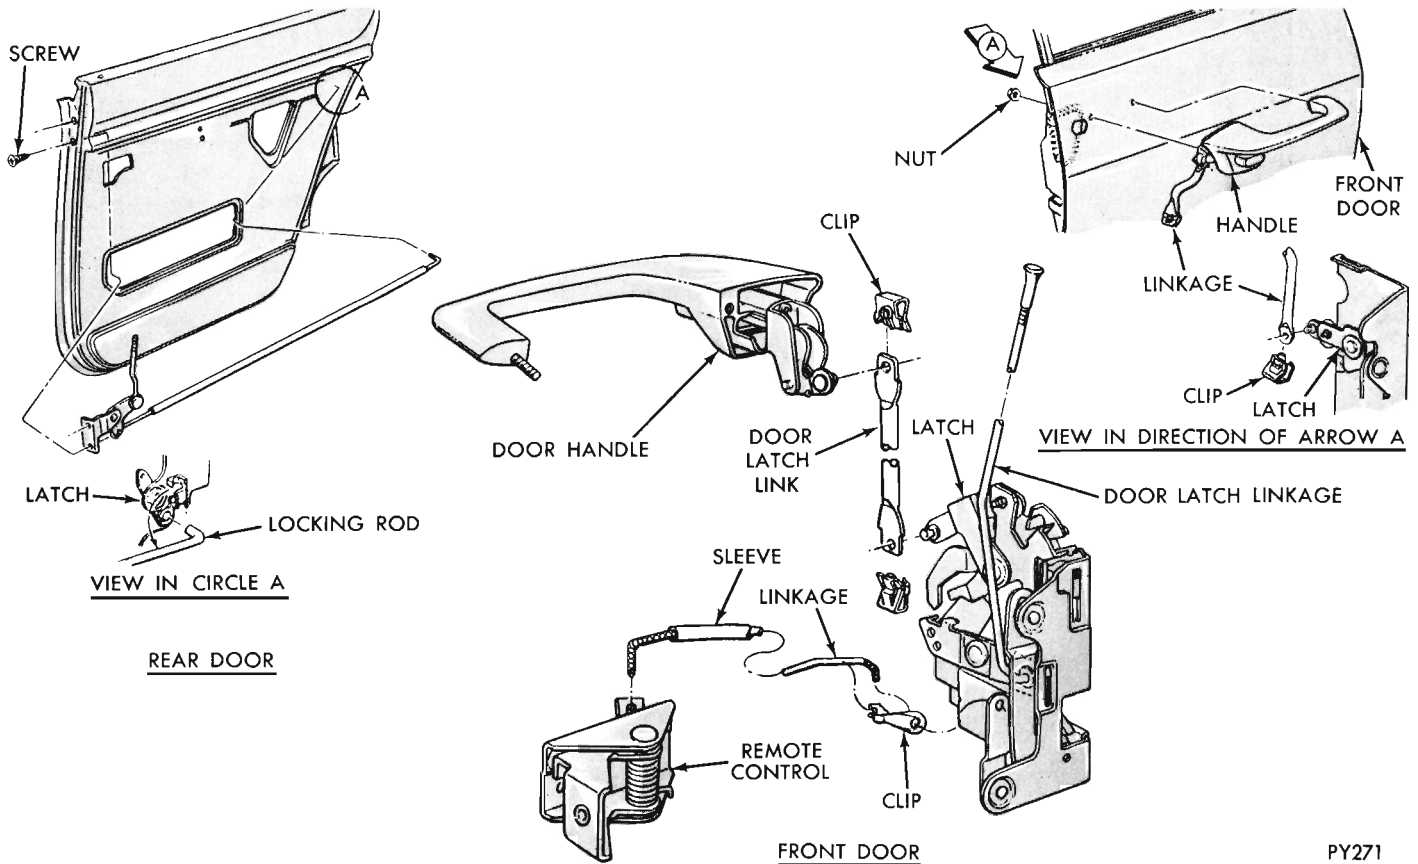

Fig. 14 - Front and Rear Door Locking Mechanism
- (1) Disconnect handle to lock link (Fig. 14) from lock by pulling link outward at lock.